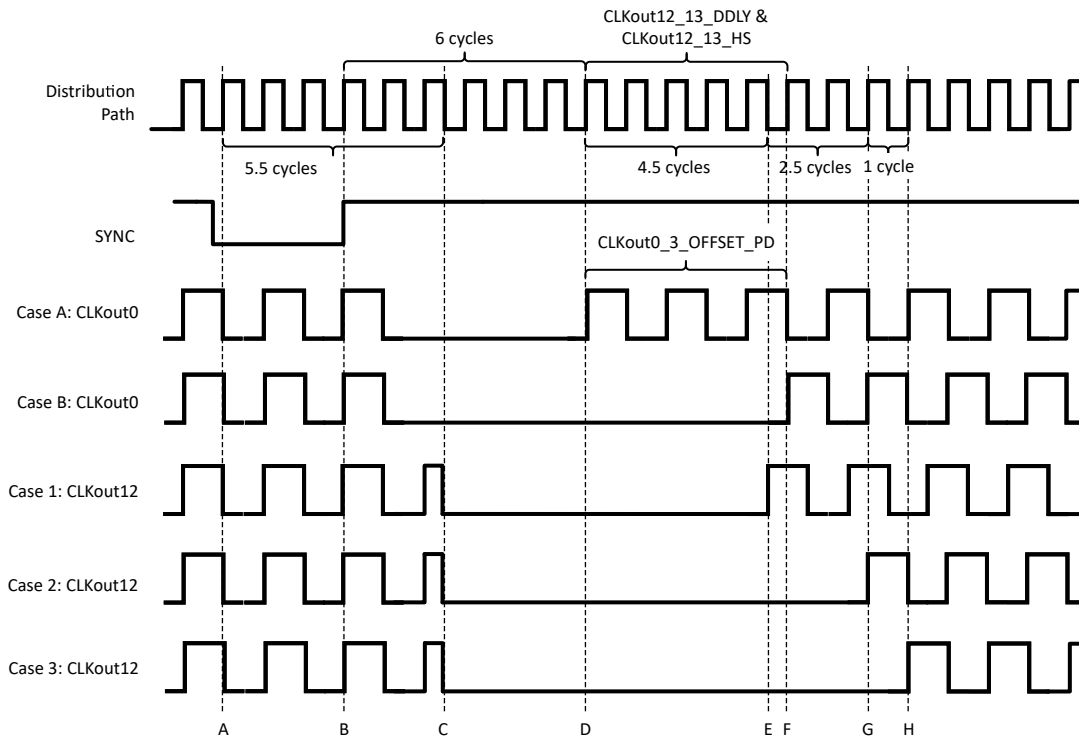

**图 9-1. Clock Output Synchronization Using the SYNC1 Pin (SYNC1 is Active High, SYNC1\_POL\_INV = 0)**
Refer to 图 9-1 during this discussion on the timing of SYNC. SYNC must be asserted for greater than one clock cycle of the clock distribution path to register the SYNC event. After SYNC is asserted the SYNC event will begin on the following rising edge of the distribution path clock, at time A. After this event has been registered, the outputs will not reflect the low state for 4.5 cycles for CLKout0 to CLKout11 at time B or 5.5 cycles for CLKout12 and CLKout13 if divide = 1 or 6.5 cycles for CLKout12 and CLKout13 if divide > 1, at time C. Due to the asynchronous nature of SYNC with respect to the output clocks, it is possible that a runt pulse could be created when the clock output goes low from the SYNC event. This is shown by CLKout12 and CLKout13. See 节 9.4.6.1.2 for more information on synchronizing relative to an output clock to eliminate or minimize this runt pulse for CLKout12 or CLKout13.
**Step 1:** The device is programmed from register R0 to R5 with values that result in the device operating as desired, see the system requirements above. The phase of all the output clocks are aligned because all the digital delay and half step values were the same when the SYNC was generated by programming register R5. The timing of this is as shown in 图 9-1.